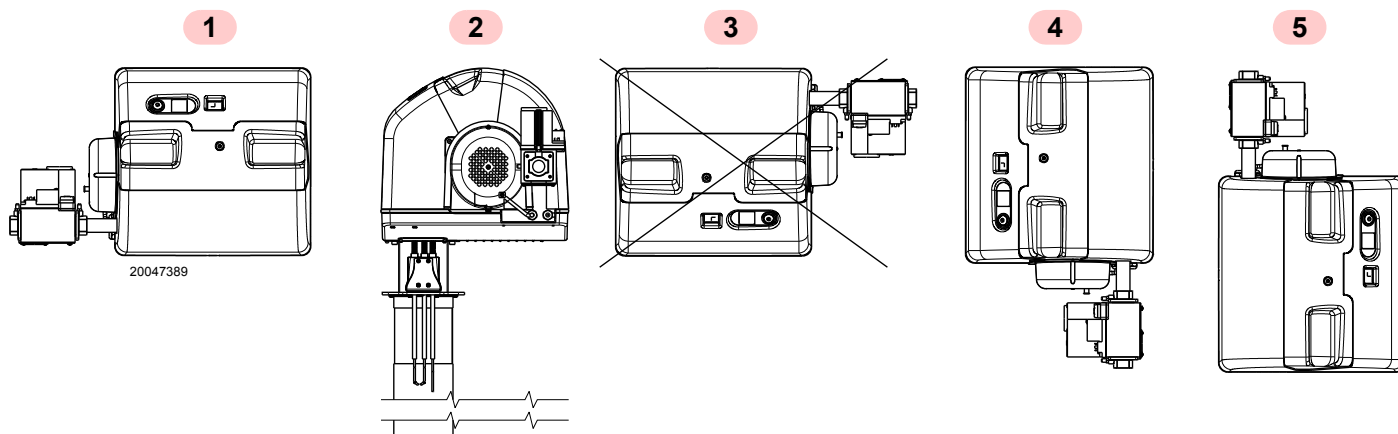

Fig. 11
- The burner is designed to operate only in positions **1**, **2**, **4** and **5** (Fig. 11).